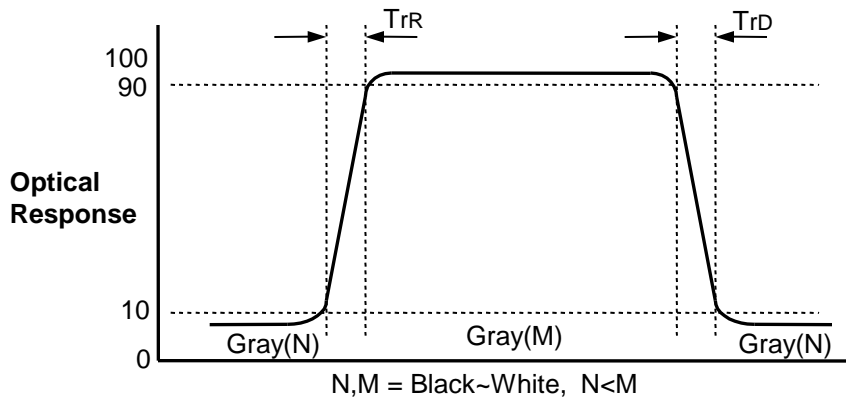

FIG. 3 Response Time
4. Response time is the time required for the display to transit from G(N) to G(M) (Rise Time, T_{rR}) and from G(M) to G(N) (Decay Time, T_{rD}). For additional information see the FIG. 3. (N<M)